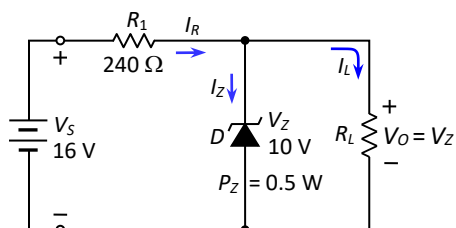

Fig.3-112: Circuit for problem no. 26
26. (a) Determine V_L , I_L , I_Z and I_R for the network of Fig.3-112, if $R_L = 180 \Omega$.